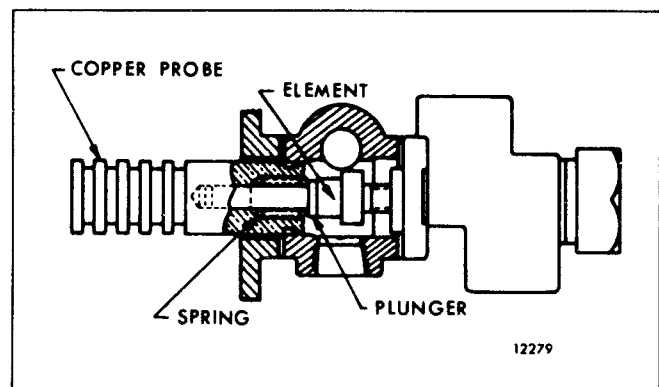

Fig. 2 – Temperature-Sensing Valve
**NOTICE:** If the temperature-sensing valve switch is removed, examine the temperature shutdown valve plunger in the copper probe (Fig. 2). If it is not free in the probe and adaptor, install a new plunger, spring and adaptor. Deposits from the engine coolant building up between the plunger, spring and plug can cause the plunger to stick in the probe.